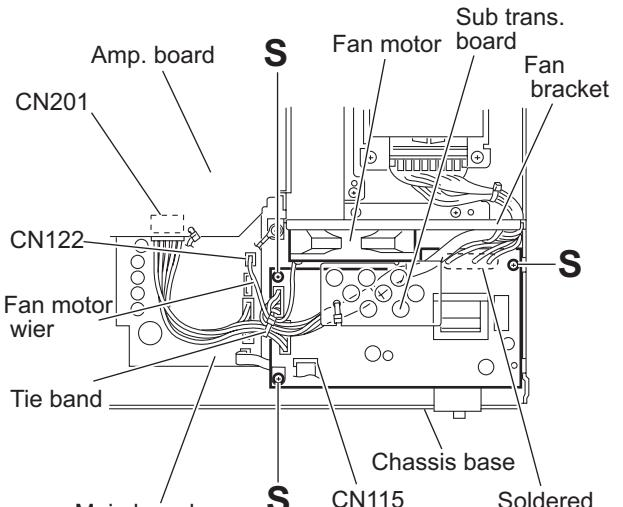

Fig.17
(See Fig.17)
(See Figs.17 and 18)
- (1) From the top side of the main body, remove the tie band bundling the wires. (See Fig.17.)
- (2) Disconnect the fan motor wire from the connector CN122 on the main board. (See Fig.17.)